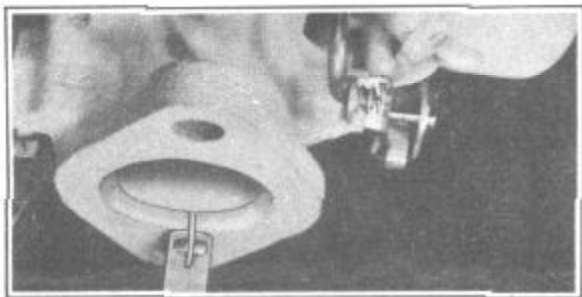

FIGURE 46
22. Adjust anti-percolator, Figure 46. Crack throttle valve .020" by placing gauge between valve and bore of carburetor (side opposite port). Bend anti-percolator rocker arm until there is a clearance of .005" to .015" between rocker arm and pump arm. (See Figure 9.)